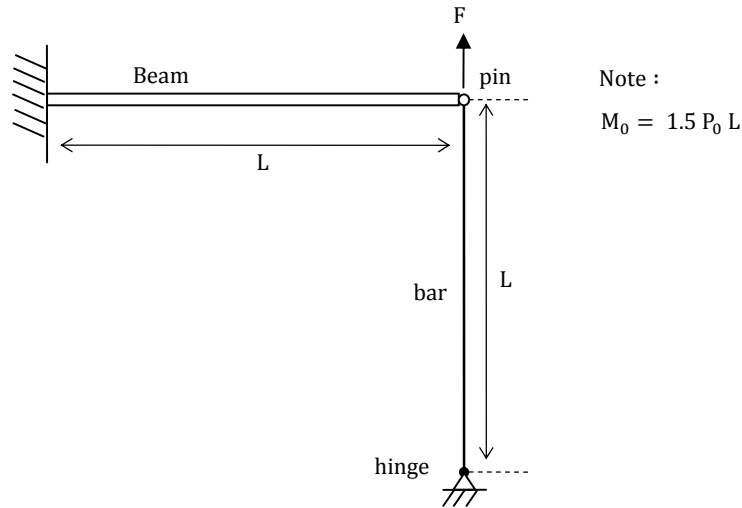

Fig. 3. A structural system
3. We have a structural system which consists of a beam (Young's modulus =  $E$ , second moment of inertia =  $I$  and plastic moment =  $M_0$ ) and a bar (Young's modulus =  $E$ , Area =  $A$  and plastic axial force =  $P_0$ ). A load  $F$  is applied as shown in Fig. 3.